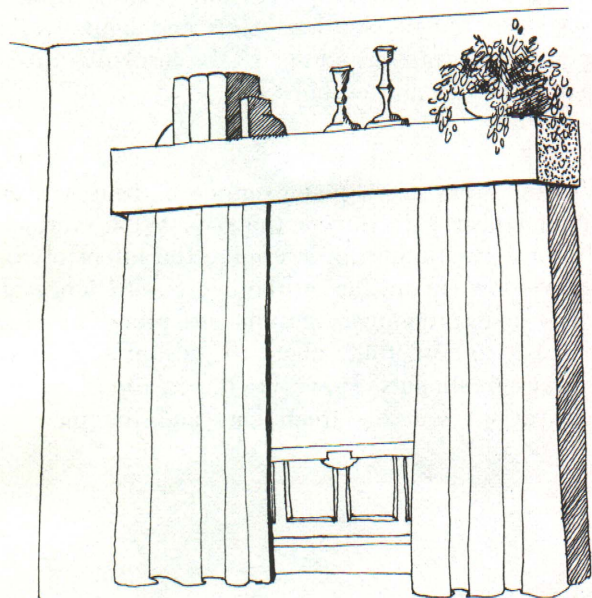

Fig. 2 — Closed-top cornice traps air.
A closed-top cornice across the top of the window will create a pocket to trap heated or cooled air (Figure 2). Fabric treatments that rest against the wall and touch the floor further insulate the window. Freely hanging curtains and draperies can be attached to the wall at the sides and bottom with velcro tape, hooks, snaps or other fasteners. One research study indicated that installing draperies with tight closures at the center opening and around the entire periphery of the window would reduce heat loss through the window by 20 percent (10).